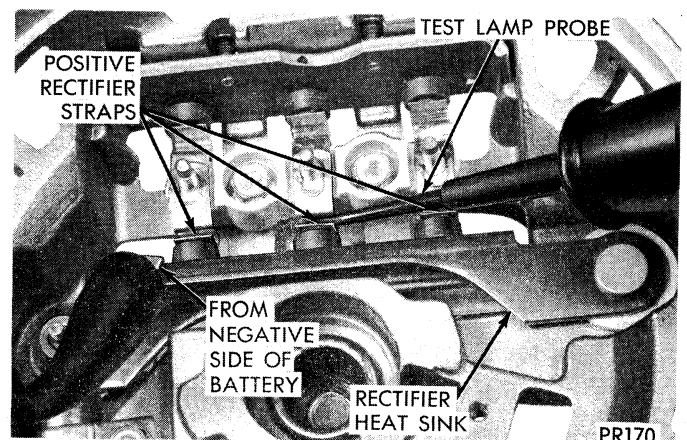

Fig. 17—Testing Positive Rectifiers With Test Lamp
(1) Contact the heat sink of rectifier with one test probe and other test probe to strap on the top of rectifier (Fig. 17).